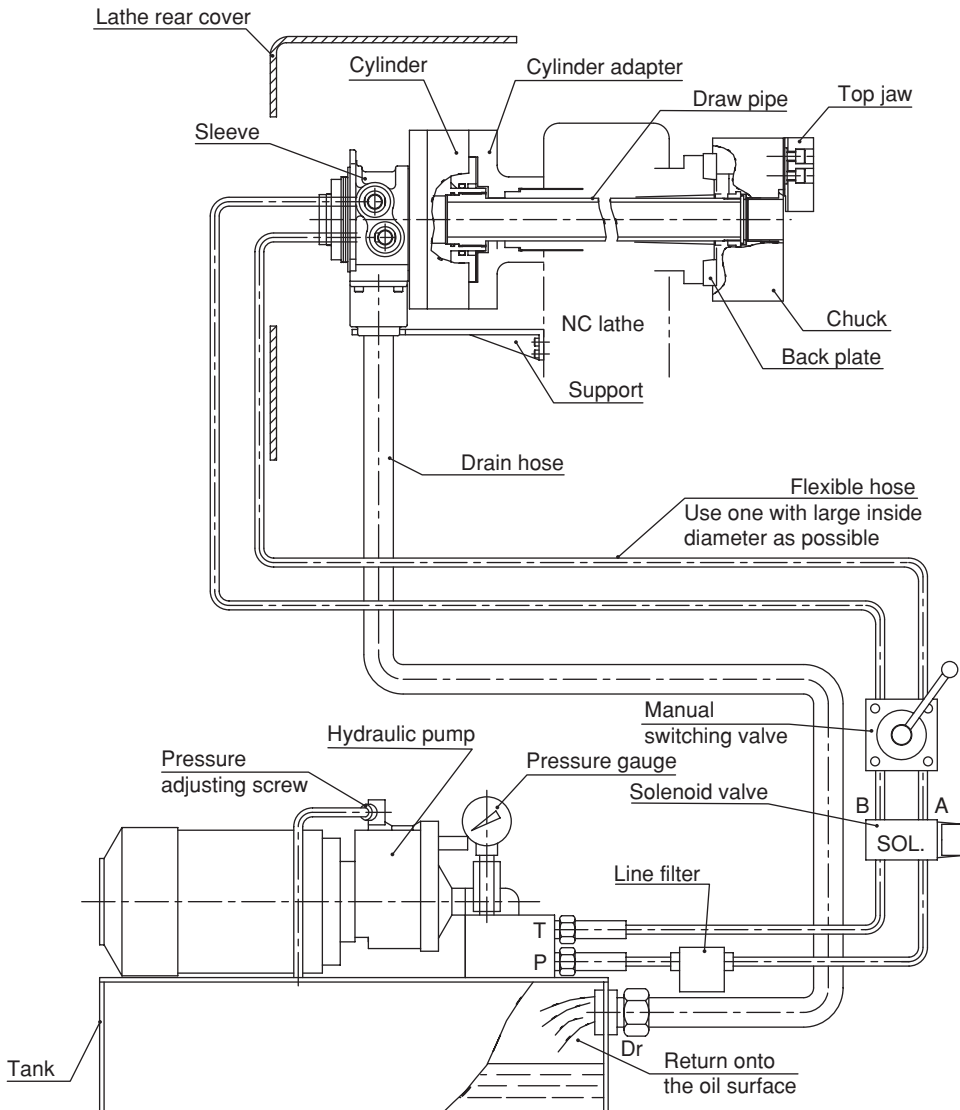

Fig. 7
- The end of the hose is physically above the oil level. (Refer to Fig.7)